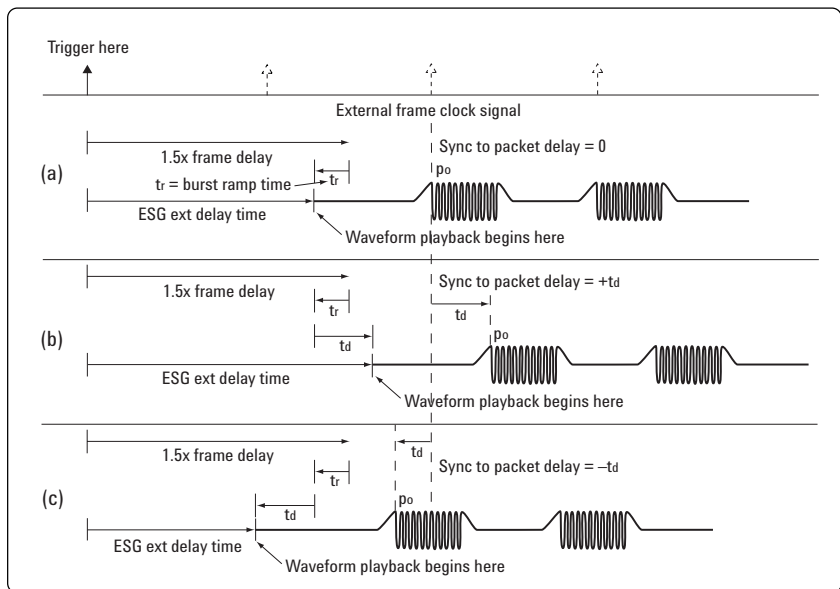

Figure 30: DH1 waveforms triggered from an external frame clock signal timing diagram.
Figure 30 shows the timing relationship of a DH1 packet sequence relative to an external frame clock signal.
Three different waveforms are shown in Figure 30, and each waveform has the same value for the burst ramp. The burst ramp, t_r , includes the power ramp and power settling times. The sync to packet delay, t_d , is different for each of the waveforms:
- Figure 30 (a) $t_d = 0$
- Figure 30 (b) $t_d = + \text{value}$
- Figure 30 (c) $t_d = - \text{value}$